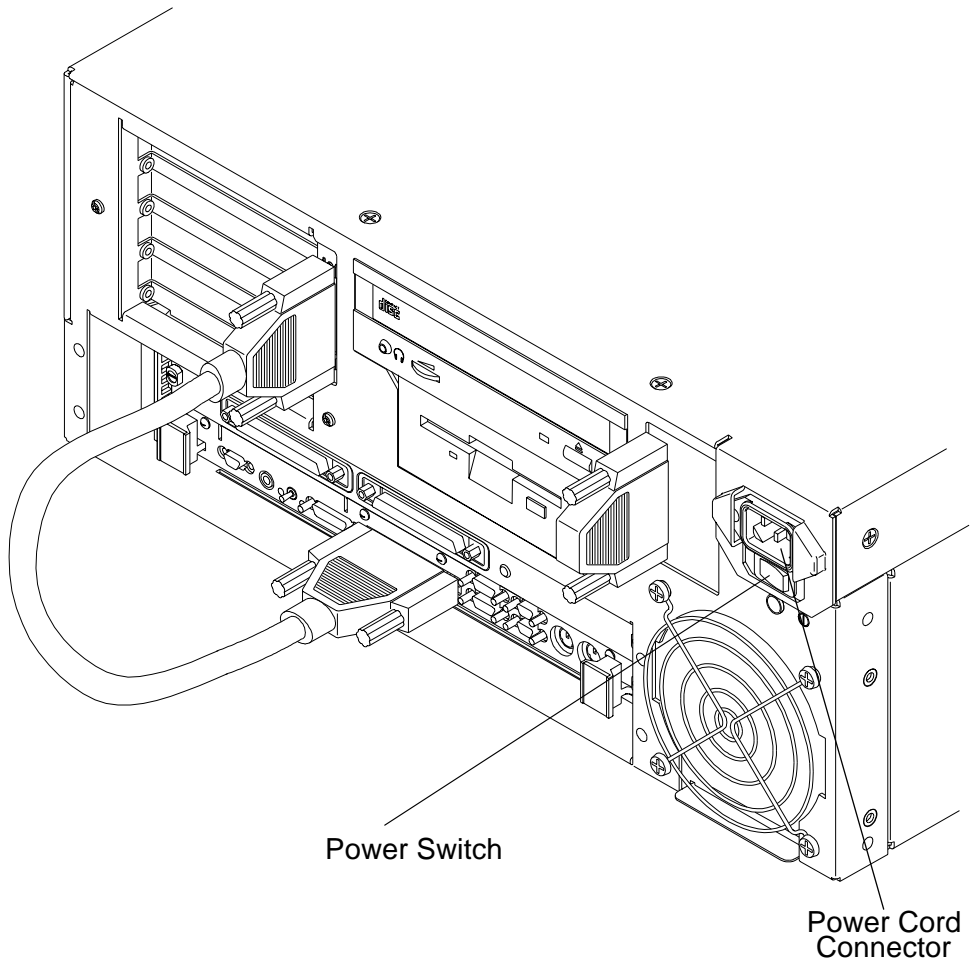
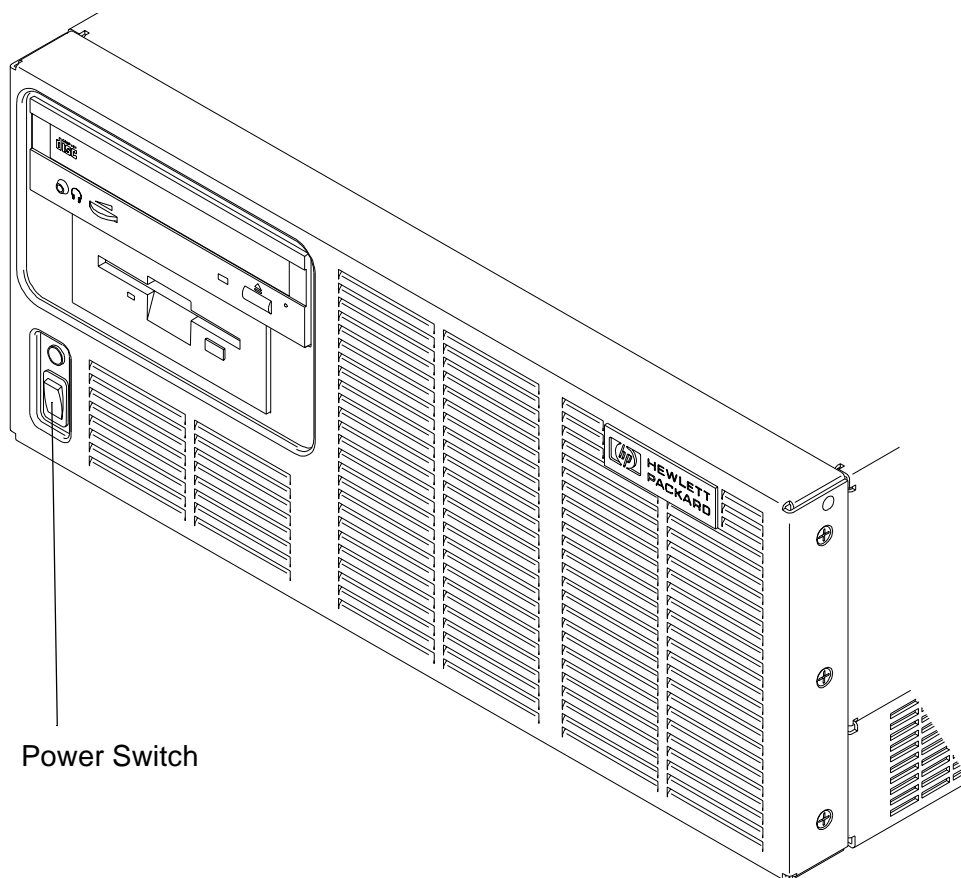

Figure 3-1 **Power Supply Connector and Rear Switch**
Figure 3-2 **Front Power Switch**
The Model 745 has two power switches - either may be used to power on the system (see Figure 3-1 and Figure 3-2).
- 3 The Model 745 has two power switches - either may be used to power on the system. Push the power switch on the rear of the system (see Figure 3-1), or push the power switch on the front of the system (see Figure 3-2).